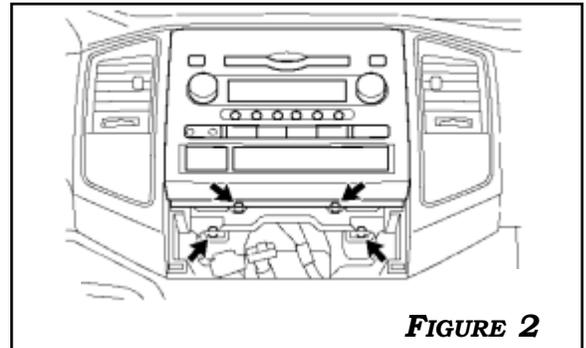

FIGURE 2
2. REMOVE THE 4 BOLTS. DISCONNECT THE CONNECTOR AND REMOVE THE RADIO RECEIVER ASSEMBLY WITH BRACKET. **FIGURE 2**